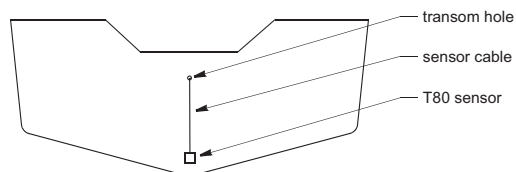

Figure 1. Mounting on the transom
1. Remove the hull nut (see Figure 1).
2. Push the sensor into the mounting hole using a twisting motion to squeeze out excess marine sealant (see Figure 1).
CAUTION: Mount the sensor as close to the centerline (keel) of the boat as possible to ensure the sensor remains in the water when the boat is turning (see Figure1).